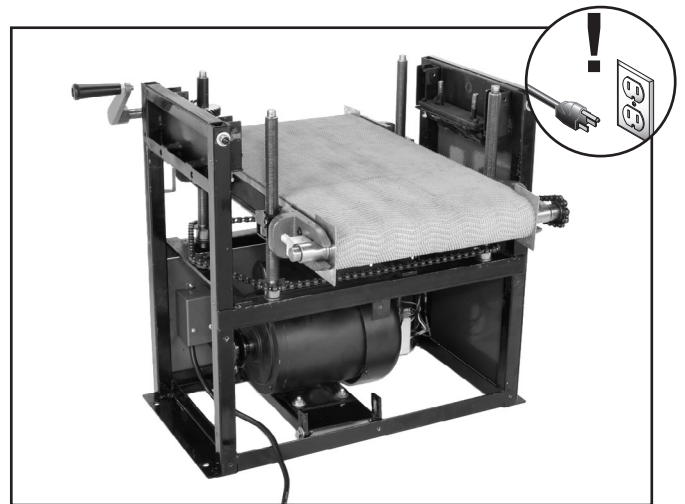

Figure 44. Drum sander disassembled to **Step 10**.
- Remove the front roller end guard covers (4 Phillip head screws) and the rear roller end guard covers (4 Phillip head screws), and set the covers aside. The drum sander should now look similar to **Figure 44**.